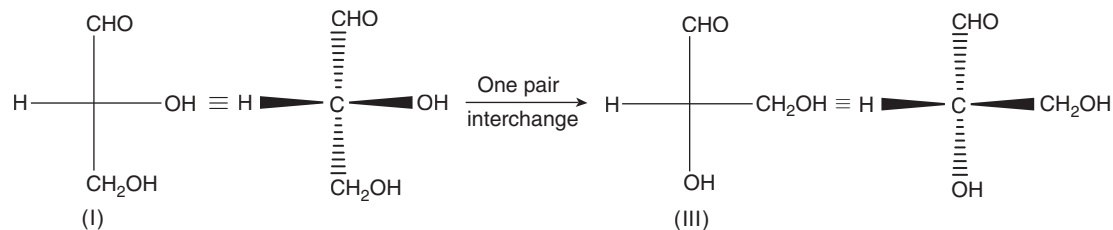

Figure 3 Enantiomers obtained by interchanging one pair of substituent.
2. If only one pair of substituents in a Fischer projection is interchanged, a projection of its enantiomer is obtained (Figure 3).
From Figure 3, we find that Structures I and III are enantiomers.